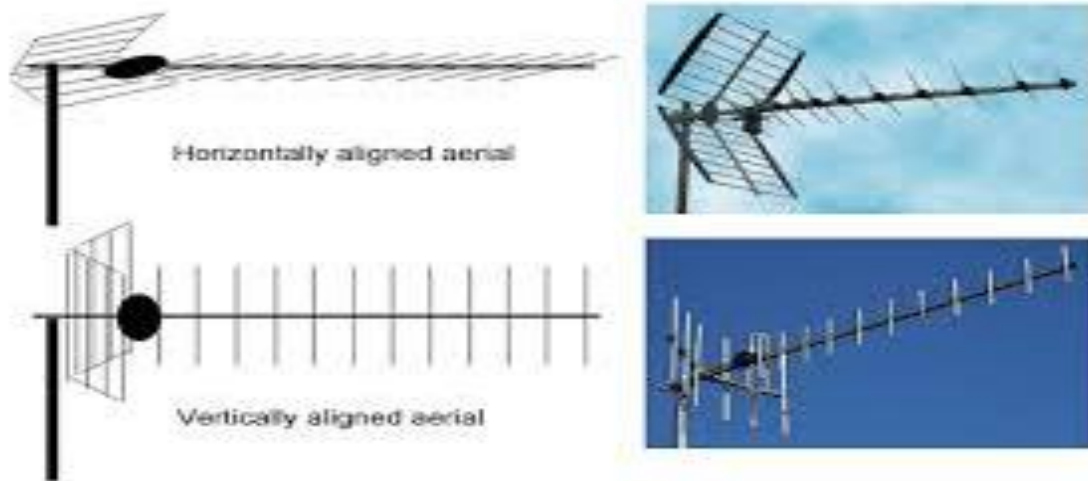

Figure 1: Antenna polarisation (Horizontal and Vertical).
2.4.6. Antenna polarization can be changed by changing the horizontal orientation of the antenna as indicated in Figure 1 below.